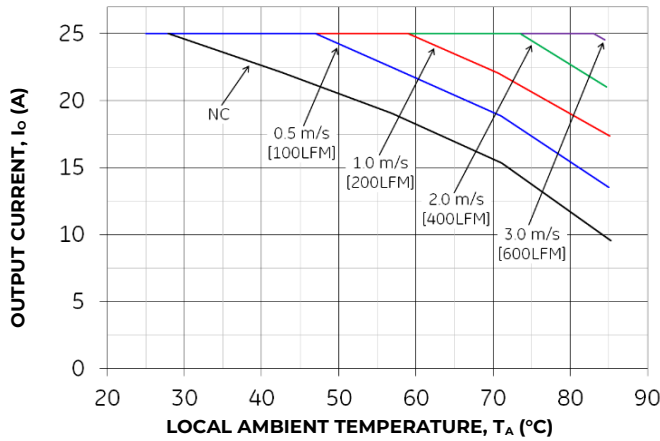

Figure 19. Output Current Derating for the Open Frame QBVW025A0B in the Transverse Orientation; Airflow Direction from Vin(-) to Vin(+); Vin = 48V.
Increased airflow over the module enhances the heat transfer via convection. The thermal derating of figure 19 - 23 shows the maximum output current that can be delivered by each module in the indicated orientation without exceeding the maximum TH_x temperature versus local ambient temperature (T_A) for air flows of, Natural Convection, 1 m/s (200 ft./min), 2
The use of Figure 19 is shown in the following example:
Determine required airflow (V) (Use Figure 19: